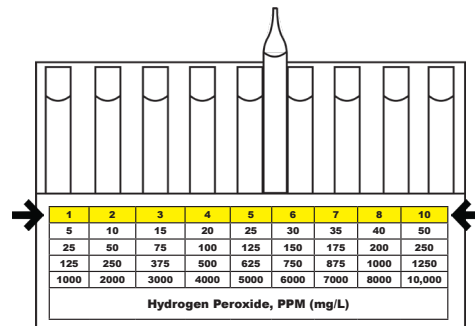

Figure 4
b. High Range Comparator (fig. 4): Place the ampoule between the color standards until the best color match is found.